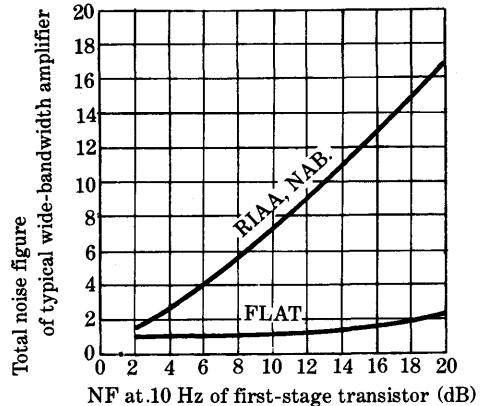

Fig. 19 Total noise figure of a typical wide-bandwidth amplifier
Fig. 19 shows an example of actual values calculated by using these equations. This figure shows how much the NF (1/f noise) at 10 Hz of a first-stage transistor influences a circuit in which the low-frequency region is boosted.
and from Fig. 19 and equation (17), (27)